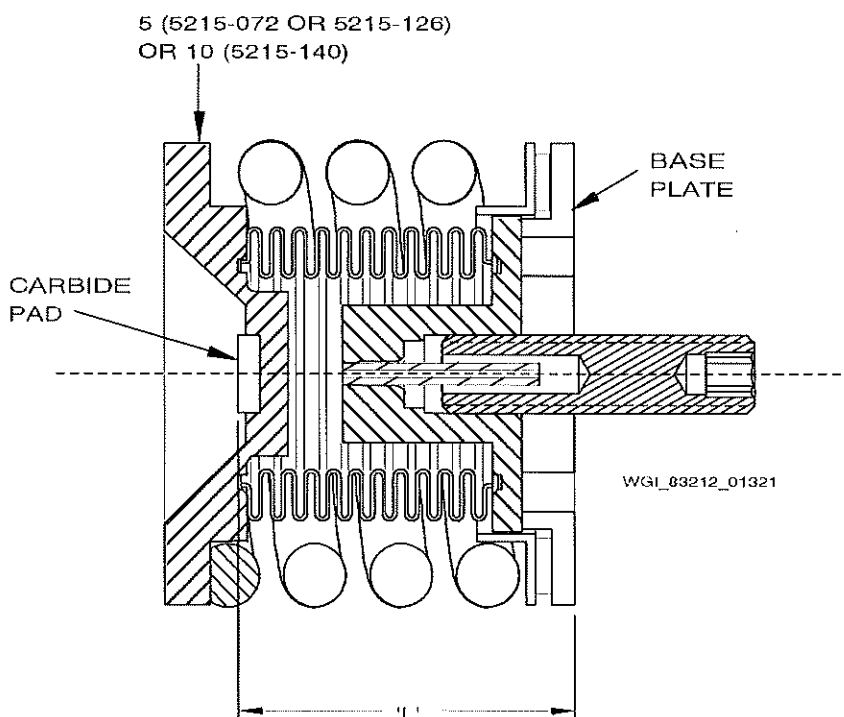

Figure 2 - CDP Bellows Assembly Check
- (1) Measure bellows assembly (5 or 10, Figure 2) length "L" from surface of base plate to top of carbide pad (see Figure 2). Compare measured length "L" to dimension "L" marked on the bellows assembly (5 or 10) end. If dimensions are different by more than 0.003 inch (0,08 mm), replace the bellows assembly (5 or 10). Bellows assembly (5) manufactured prior to December 1999 are not marked with an "L" dimension. Due to the age of these unmarked parts in addition to the lack of a length reference, these bellows assembly (5) shall be replaced. Bellows assembly (5) manufactured after 1999 have a length dimension marked, but the dimension is not identified with a letter. Do not use the dimension identified with "H". Beginning in 2001, the length dimension on bellows assembly (10) has been identified with the letter "L".